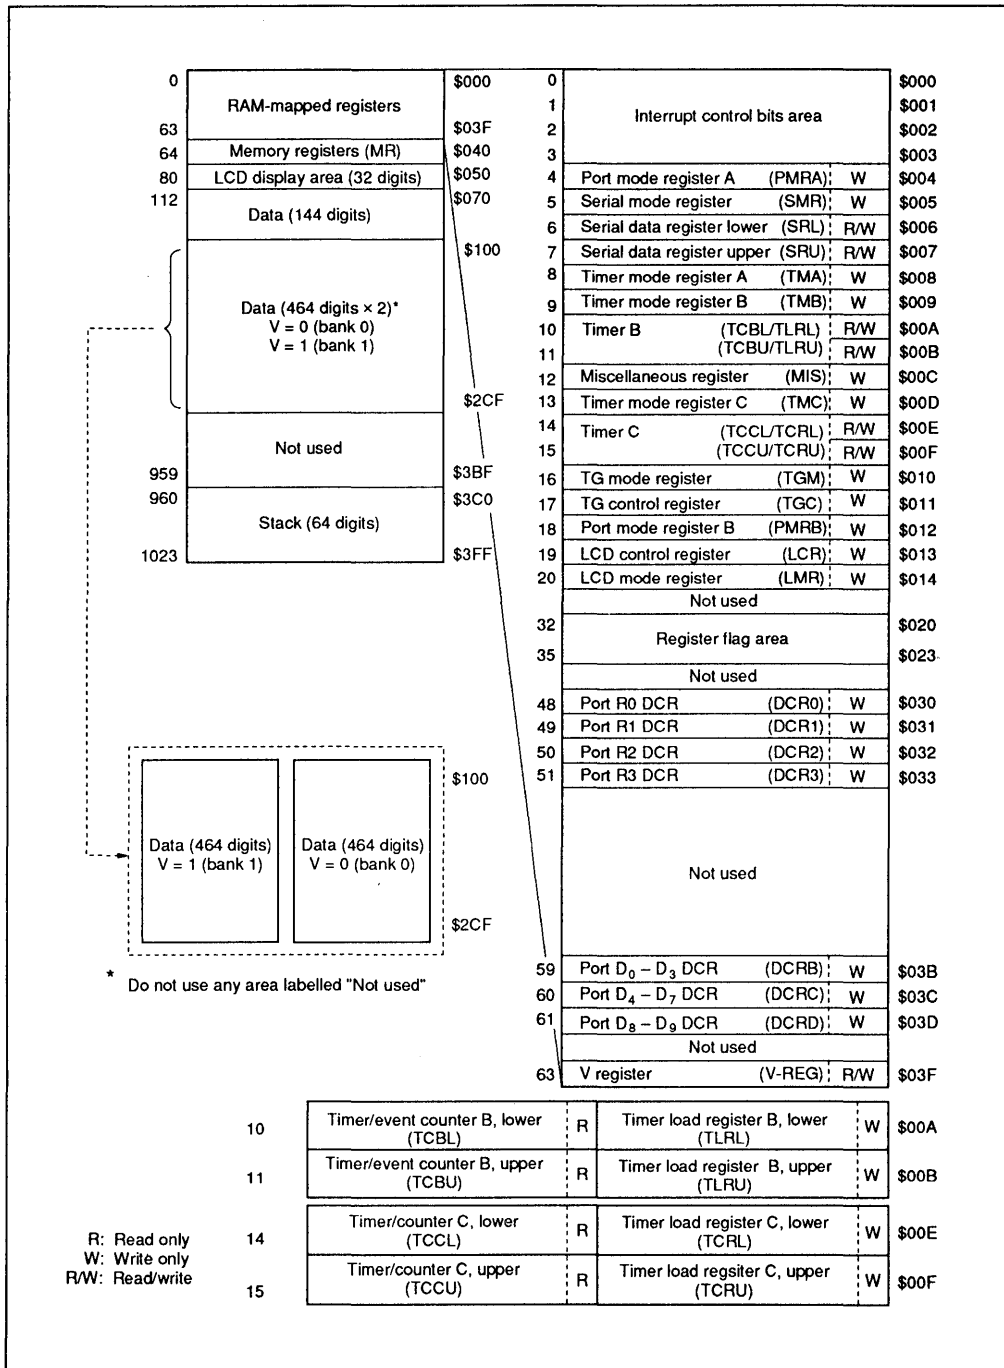

Figure 2 RAM Memory Map
The MCU contains a 1184-digit  $\times$  4-bit RAM area consisting of a data area and a stack area. In addition, interrupt control bits and special registers are mapped onto the same RAM memory space outside this area. The RAM memory map is shown in figure 2 and described below.
**Special Function Register Area (\$004 – \$01F, \$024 – \$03F):** Used as mode or data registers for serial interface, timer/counters, LCD, and DTMF, and as data control registers for I/O ports. These registers are classified into three types: write-only, read-only, and read/write as shown in figure 2.